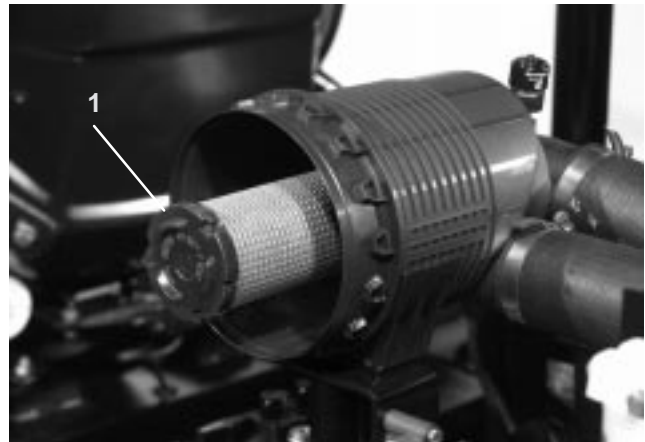

Figure 46
2. Gently slide primary filter (Fig. 45) out of air cleaner body to reduce the amount of dust dislodged. Avoid knocking filter against air cleaner body. **Do not remove safety filter (Fig. 46).**